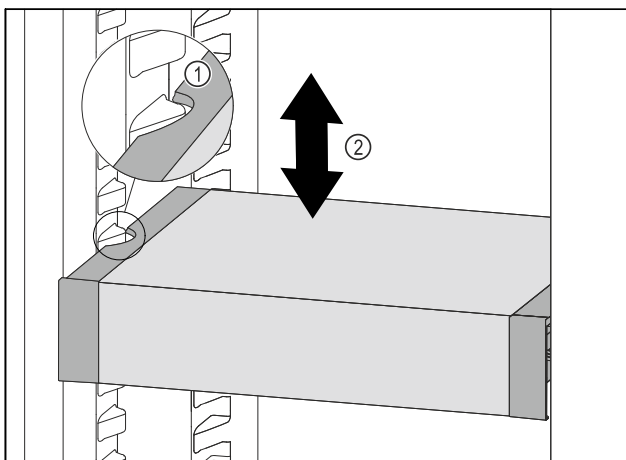

Fig. 77
- Pull VarioSafe forwards until the recesses in the side of the VarioSafe are at the level of the support rib in the refrigerator compartment. Fig. 77 (1)
- Move VarioSafe up or down in the refrigerator compartment until the desired height is reached. Fig. 77 (2)